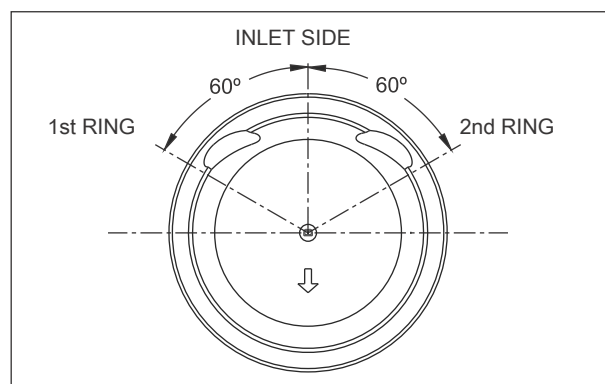

Fig. 3.98
- Assemble the ring piston 2nd, locating its end gap towards the inlet side of the piston at 60 degree to the right from the center. (Fig. 3.98)
- Assemble the ring piston top, locating its end gap towards inlet side of the piston 60 degree to the left from the center. (Fig. 3.98)